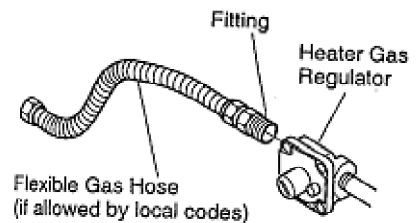

Figure 11 - Attaching Flexible Gas Hose to Heater Gas Regulator
1. Apply pipe joint sealant lightly to make threads to be threaded into gas regulator. Connect approved flexible gas hose to gas regulator of heater (see Figure 11).